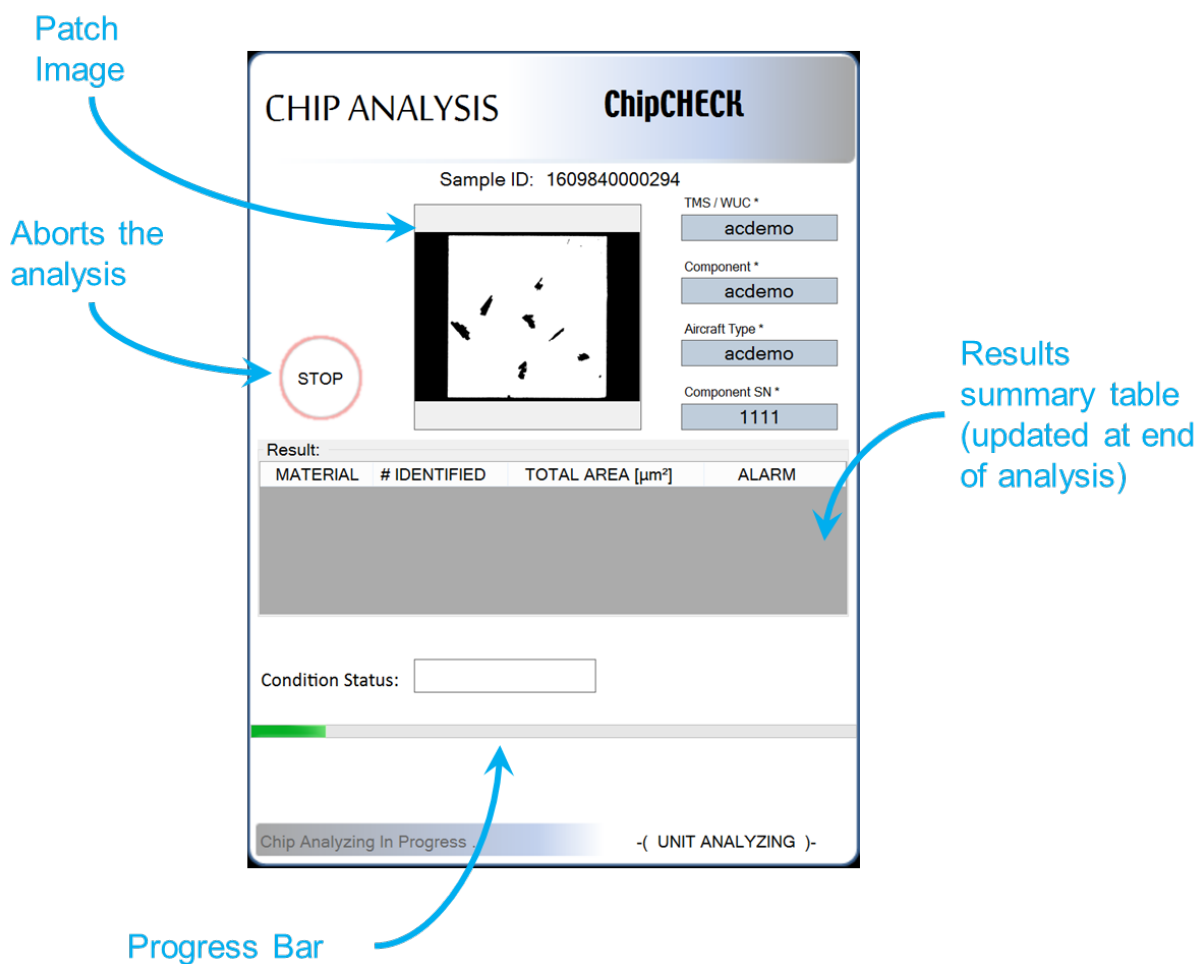

Figure 4-9: Chip Analysis Screen – Chip Analysis Running
5. The equipment will now complete the entire analysis automatically. Refer to Figure 4-9 for the layout of where this information can be found on the screen.